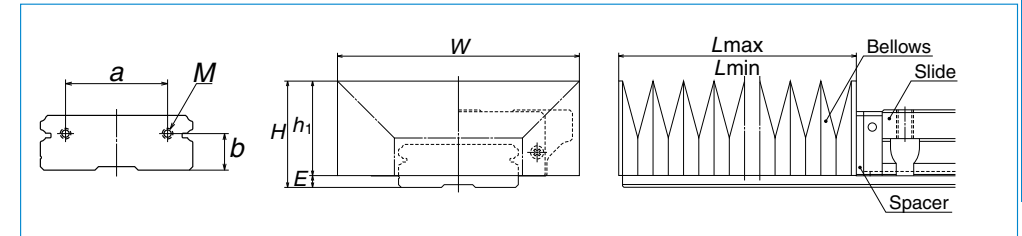

**Fig. 7.7**
**(5) Bellows**
- To install bellows for NH and NS Series, lightly knock a fastener exclusively for bellows to the end of the rail (**Fig. 7.7**). Then secure the mounting plate to the end of the bellows through the tap hole of the fastener.